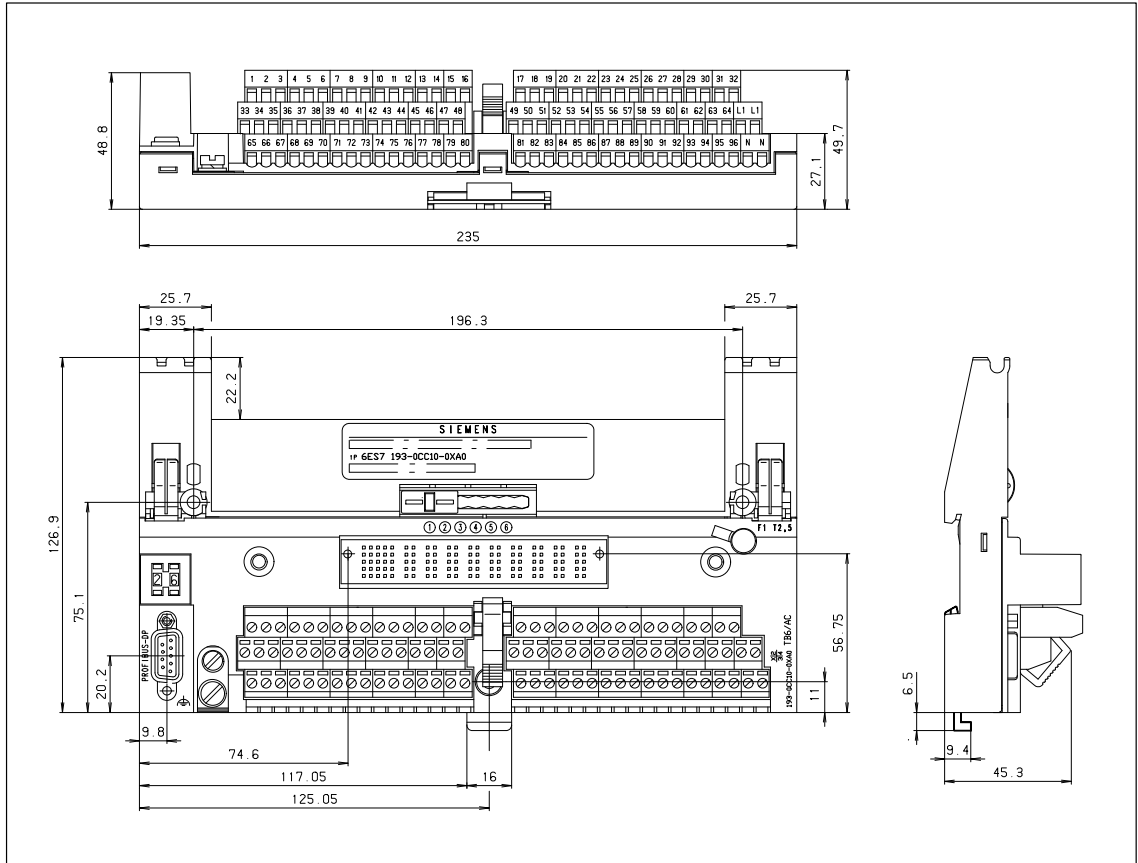

Figure 7-15 Dimensional Drawing: Terminal Block TB6/AC (Screw-Type Terminal, 3-Tier)
**Dimensional Drawing** Figure 7-15 is a dimensional drawing of the TB6/AC (screw-type terminal, 3-tier)